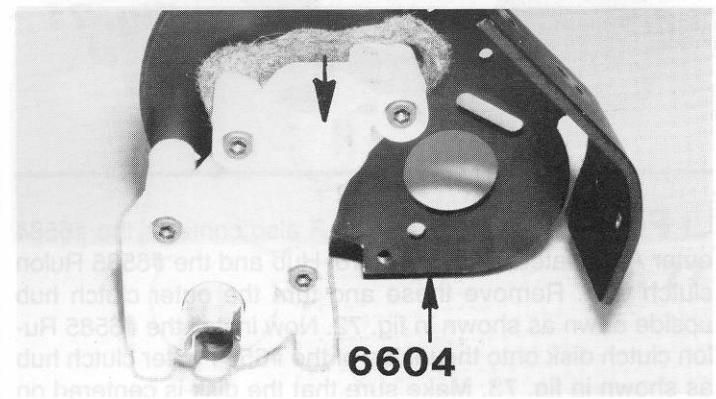

Fig. 68
□ **Figs. 68 & 69** Now take the #6569 case dust end cap that we set aside in fig. 64 and install it in the hole of the left case half as shown in these photos. The location is indicated by the arrows.